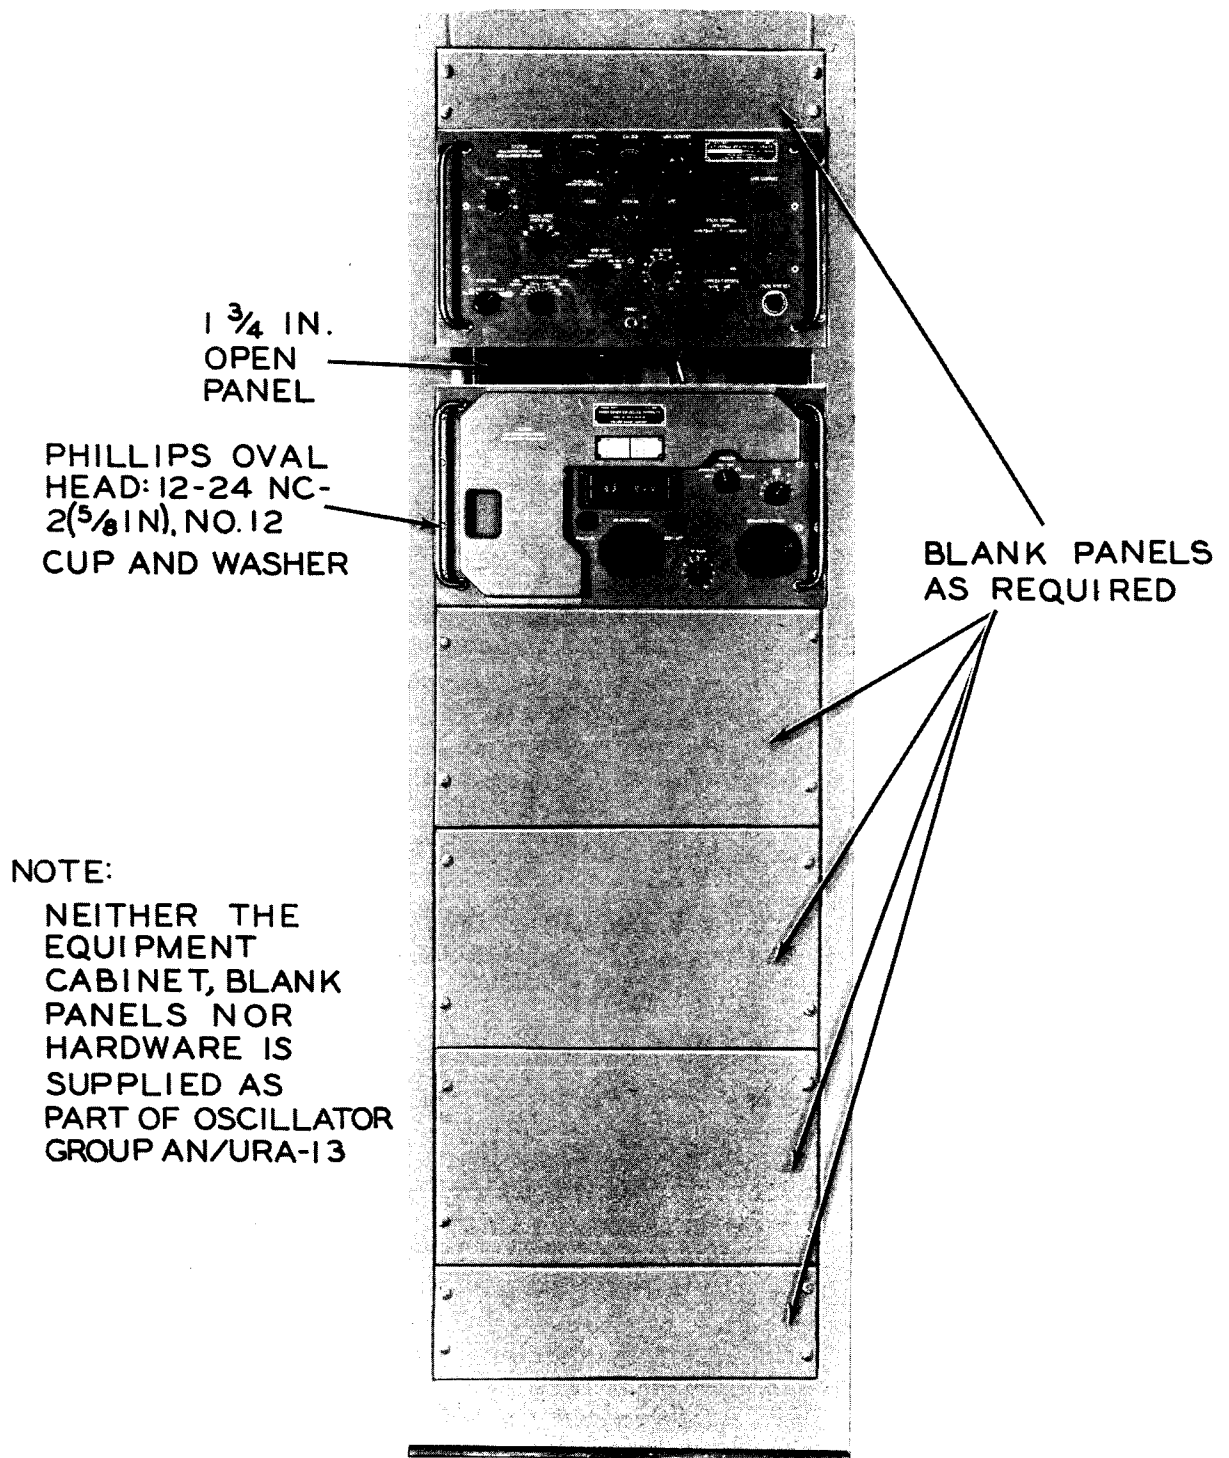

Figure 16. Installation diagram, front view.
- (6) Inspect for broken or bent connectors on the rear panel.
- (7) Check the running spares for missing or damaged parts.
a. General. Oscillator Group AN/URA-13 may be installed in any standard 19-inch rack-type cabinet for either fixed station or mobile operation. Figures 16 and 17 show a rack installation for fixed station operation. No equipment rack is supplied as part of the equipment.